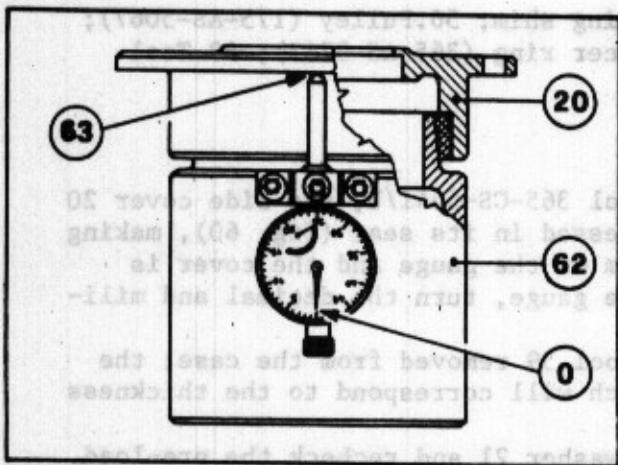

Fig. 60 Zero-setting of gauge.
--Insert into the instrument, with test cone tool 365-CS-5341/b, the side cover 20 with the external ring of the roller bearing pressed in its seat (fig. 60), making sure that a good contact between the contact arm of the gauge and the cover is established; by rotating the knurled knob of the gauge, turn the decimal and millimetric scales indicators to the 0 setting.